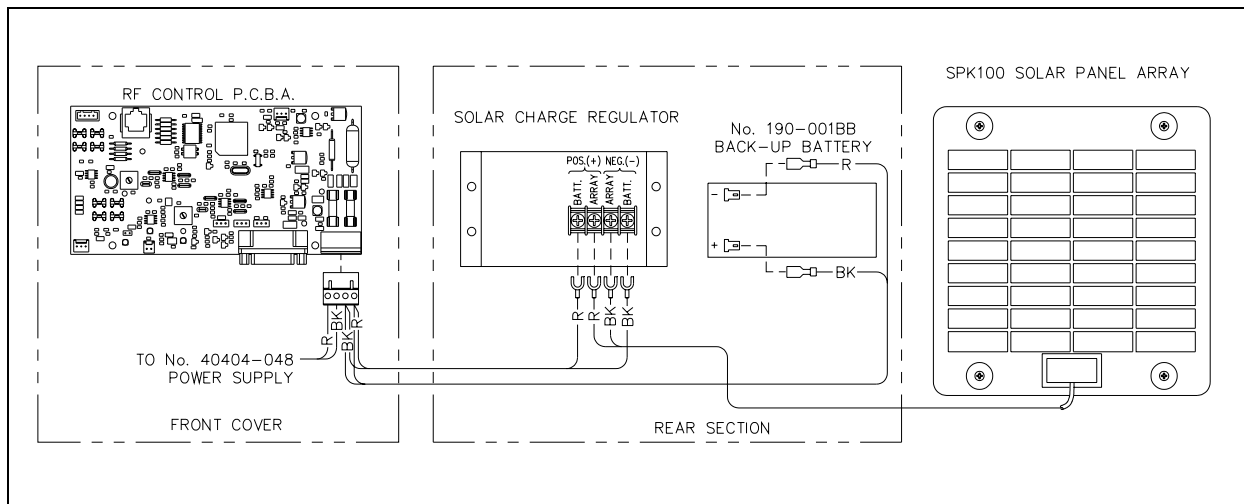

Figure 1. Solar Panel Wiring Diagram
4. The PCBA is located on the front cover of the enclosure. Connect the bare lead of the red wire to pin 1 of the PCBA's TB1 connector. Connect the bare lead of the black wire to pin 2 of TB1. Refer to Figure 1 for location on the PCBA.
5. Run the solar array wires into the enclosure and attach both the positive (red wire) and negative (black wire) to the regulator module. The red wire should be attached to the "array positive" terminal and the black wire should be attached to the "array negative" terminal. Dress the wires to avoid contact with the internal antenna or external antenna cable. Refer to Figure 1 below.